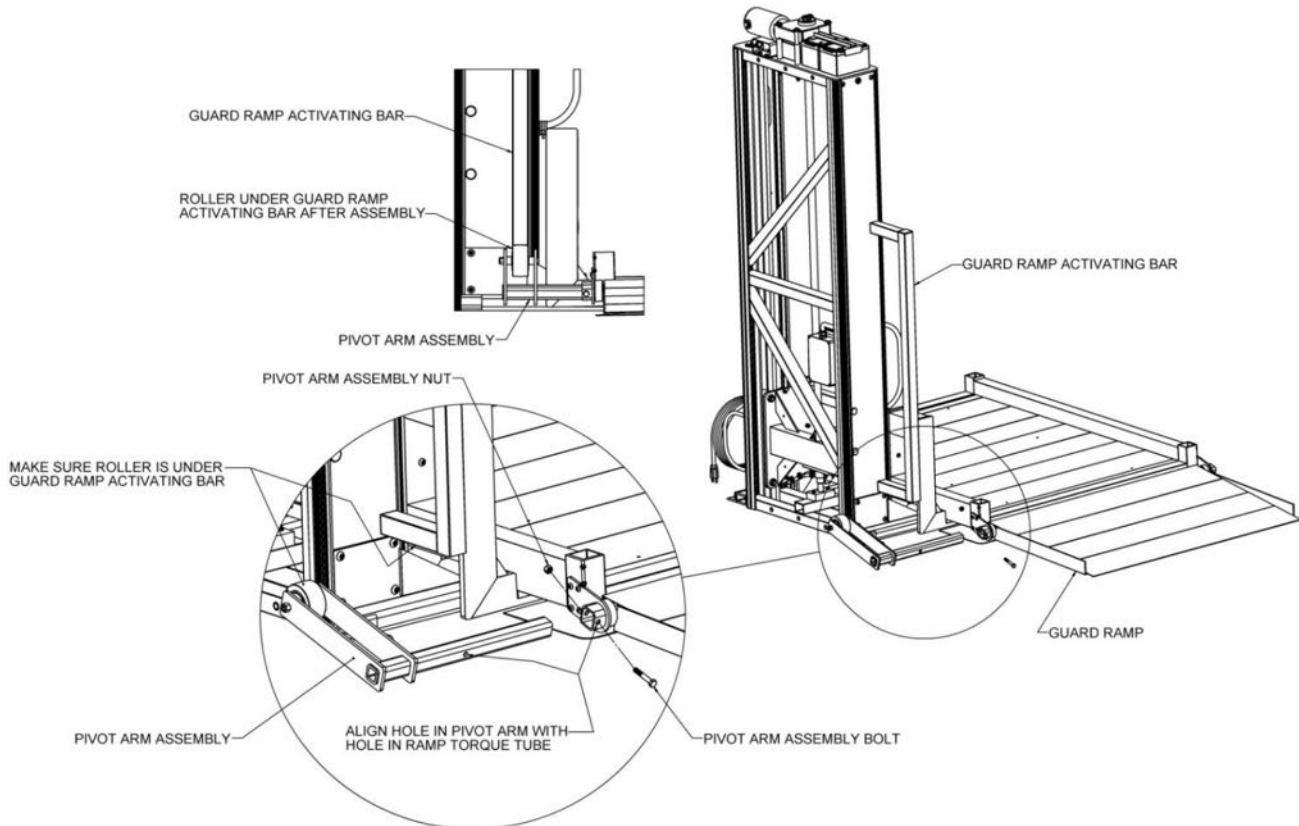

FIG. 4.6
10. Install the pivot arm assembly (included in the box with the platform) by first locating the 5/16"-18 x 2" hex bolt and locknut included in the hardware bag (FIG. 4.6).